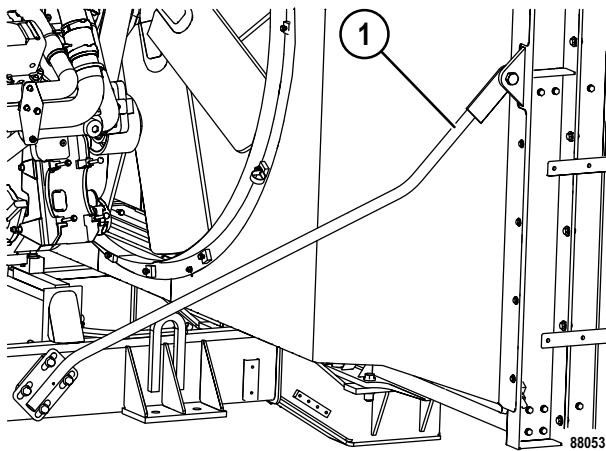

FIGURE 50-51. STABILIZER BAR REMOVAL
- 17. Remove stabilizer bars (1, Figure 50-51) from both sides of the radiator.